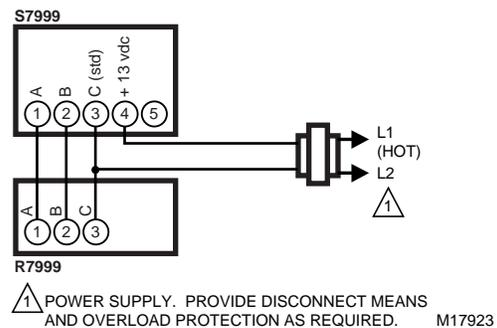

Fig. 4. Wiring the display module.
1. Refer to Fig.4, 5 and 6 for proper wiring.